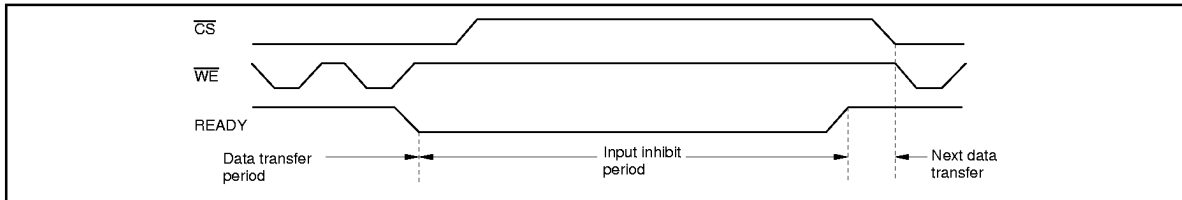

Figure 14 **READY** Output Timing (When It Is Always Available)
a. READY is always available (Figure 14).